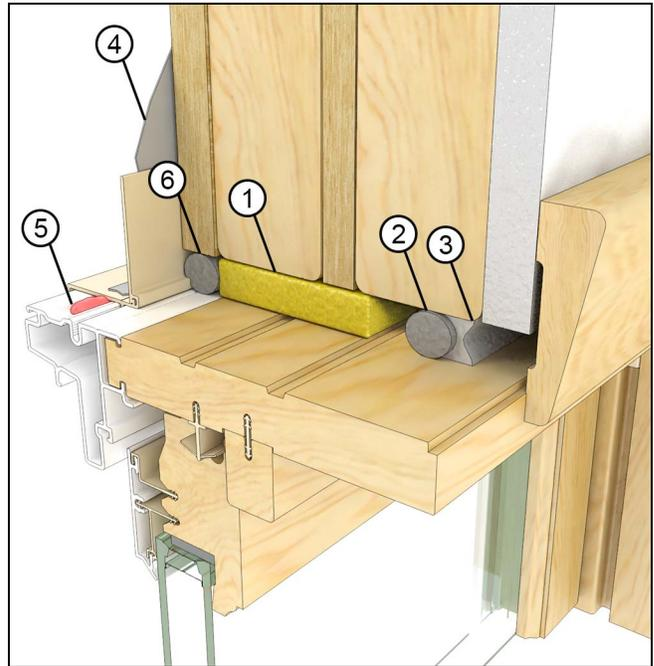

Figure 26
2. Low Expansion Foam. Install a backer rod at the exterior plane of the RO. Apply a low expansion/low compression closed cell foam in the cavity. Install a backer rod and sealant at the interior plane of the RO to create a continuous air seal. See Figure 26.